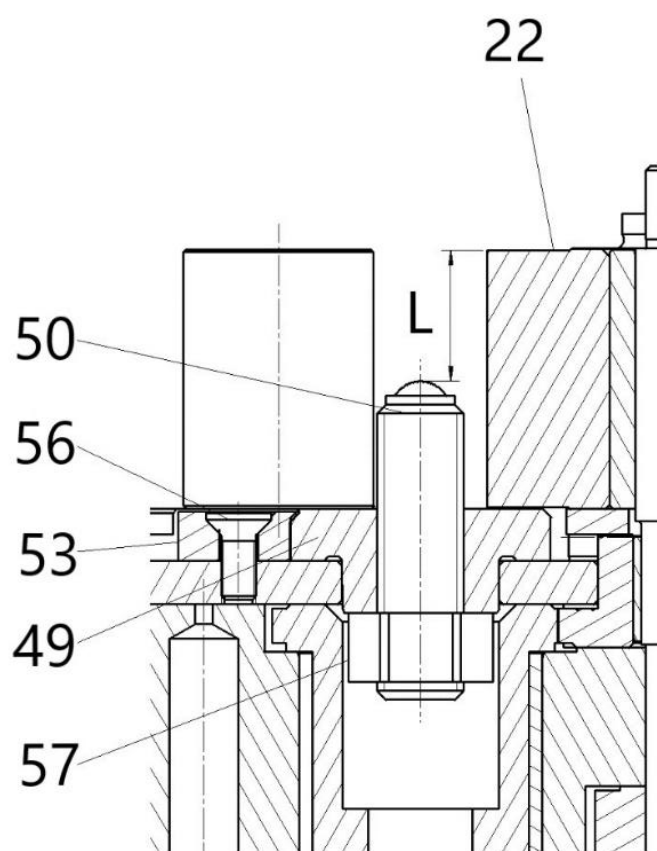

Figure 15: Setting the thread using the *rolling system radial EW 2/2*
2. Insert the rolls (22)
3. Measure the set thread length L (see Figure 15) between the top edge of the roller and the stop screw (50) inside the roller head using a caliper gauge
Perform the chamfering in accordance with figure 15: